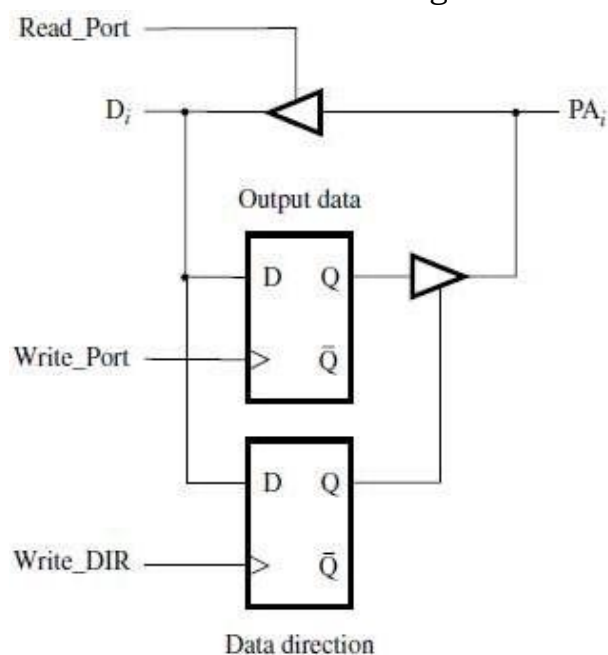

Figure 10.5 Access to one bit in port A in Figure 10.4.
- If the data direction flip-flop contains a 0, then Port pin **PAi** is treated as an input (Figure 10.5). If the data direction flip-flop contains a 1, then Port pin PAi is treated as an output.